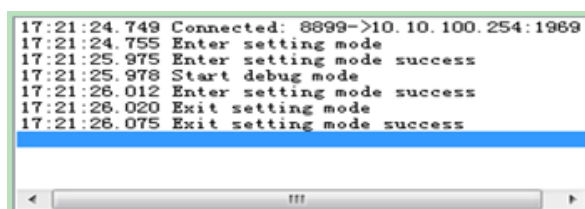

Figure 3.10: Prompt of access setting status successfully is displayed in status display column
- (8) Prompt of setting successfully will be displayed in the status display column (bar) area, as shown in figure 3.10